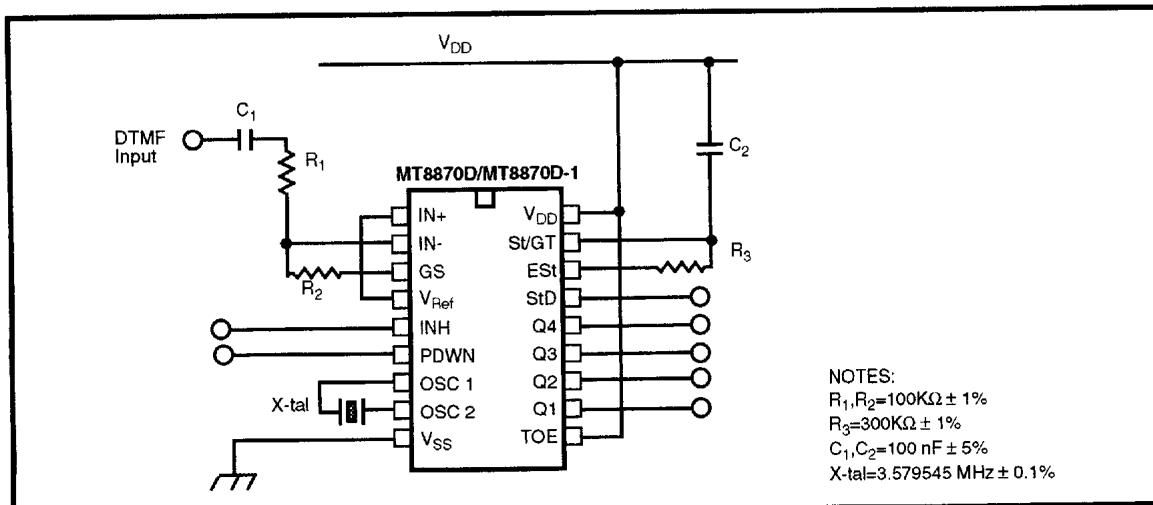

Figure 10 - Single-Ended Input Configuration
**MT8870D AC Electrical Characteristics** -  $V_{DD}=5.0V \pm 5\%$ ,  $V_{SS}=0V$ ,  $-40^{\circ}C \leq T_O \leq +85^{\circ}C$ , using Test Circuit shown in Figure 10.
**MT8870D-1 AC Electrical Characteristics** -  $V_{DD}=5.0V \pm 5\%$ ,  $V_{SS}=0V$ ,  $-40^{\circ}C \leq T_O \leq +85^{\circ}C$ , using Test Circuit shown in Figure 10.
12. Referenced to Fig. 10 input DTMF tone level at -25dBm (-28dBm at GS Pin) interference frequency range between 480-3400Hz.
AC Electrical Characteristics -  $V_{DD}=5.0V \pm 5\%$ ,  $V_{SS}=0V$ ,  $-40^\circ C \leq T_0 \leq +85^\circ C$ , using Test Circuit shown in Figure 10.